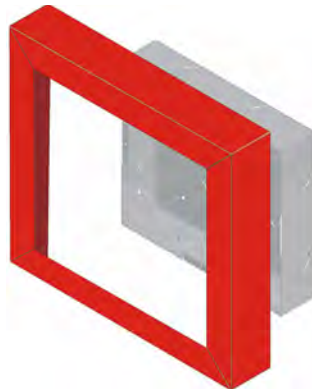

Figure 4.20 Installing Trim Ring
4. Place the trim ring over the back box as shown in Figure 4.20.